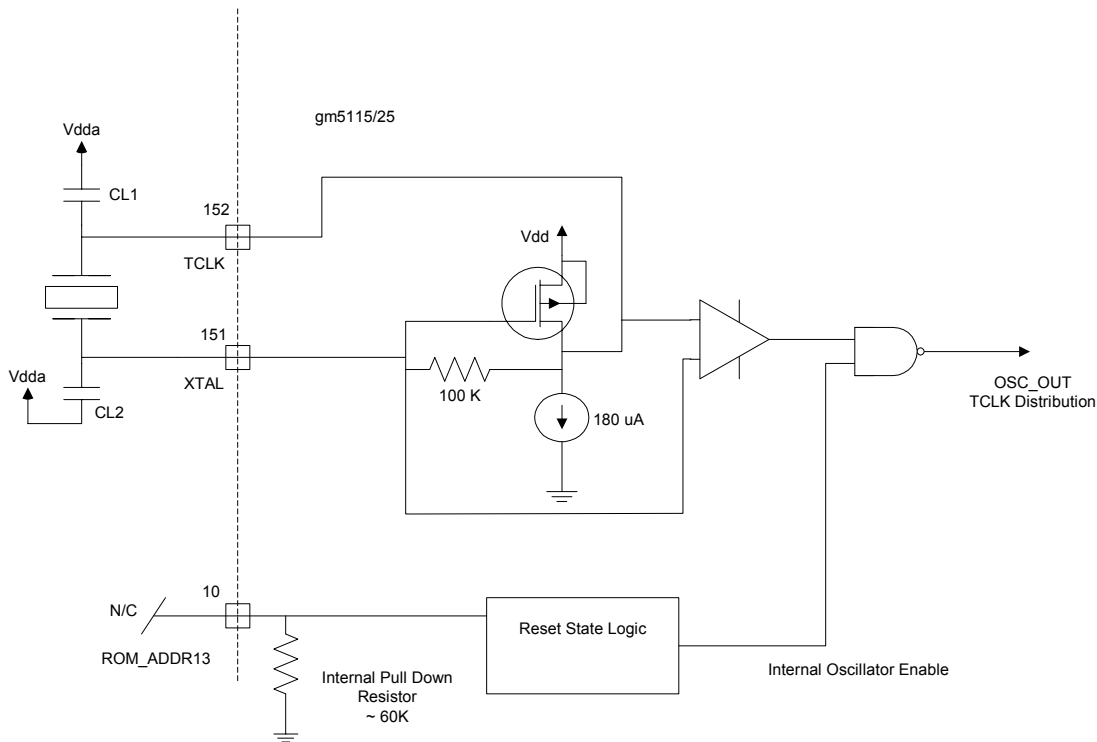
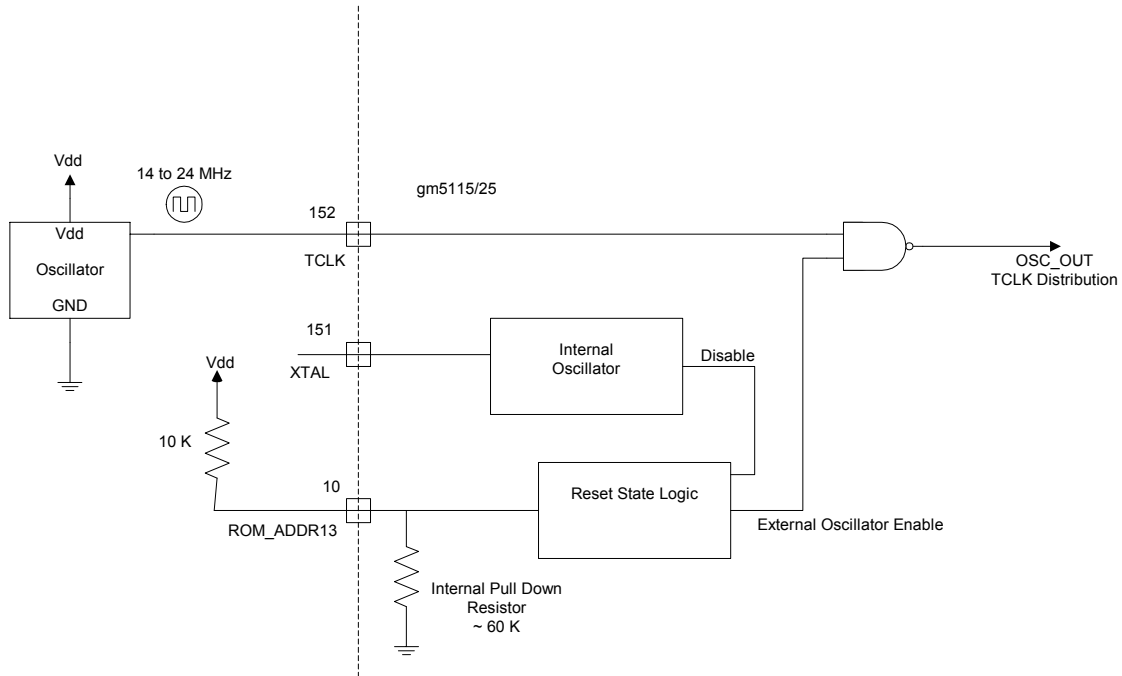

Figure 4. Using the Internal Oscillator with External Crystal
Figure 7. Using an External Single-ended Clock Oscillator
1. Crystal Input Clock (TCLK and XTAL). This is the input pair to an internal crystal oscillator and corresponding logic. A 14.3 MHz TV crystal is recommended. Other crystal frequencies may be used, but require custom programming. This is illustrated in Figure 4 below. Alternatively, a single-ended TTL/CMOS clock oscillator can be driven into the TCLK pin (leave XTAL as N/C in this case). This is illustrated in Figure 7 below. This option is selected by connecting a 10KΩ pull-up to ROM_ADDR13 (refer to Table 18). See also Table 14.
Another option for providing the reference clock is to use a single-ended external clock oscillator. When the gm5115/25 is in reset, the state of the ROM_ADDR13 (pin 10) is sampled. If ROM_ADDR13 is pulled high by connecting to VDD through a pull-up resistor (15KΩ recommended, 15KΩ maximum) then external oscillator mode is enabled. In this mode the internal oscillator circuit is disabled and the external oscillator signal that is connected to the TCLK pin (pin number 152) is routed to an internal clock buffer. This is illustrated in Figure 7.